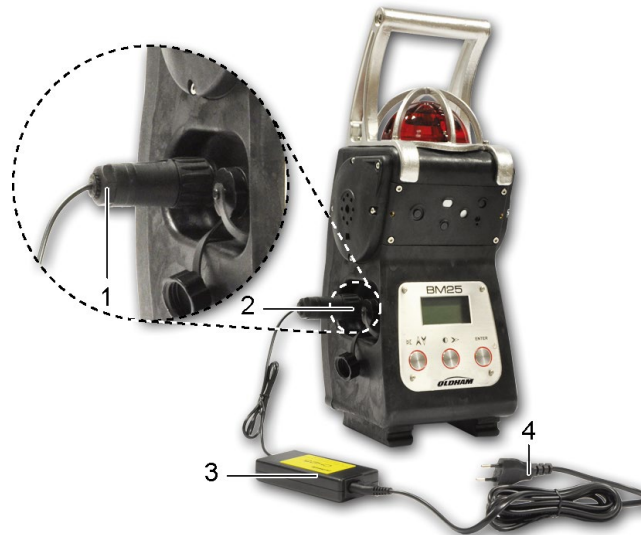

Figure 10: charging in safe area
Insert the male connector (Figure 10, ref. 1) from the charger (ref. 3) into the corresponding charging port and identified with a red ring (ref. 2) on the BM 25A/AW. Connect the other end of the power supply (ref. 4) to the power source. Charging time is 4.5 hours with the 110/230 VAC universal charger.